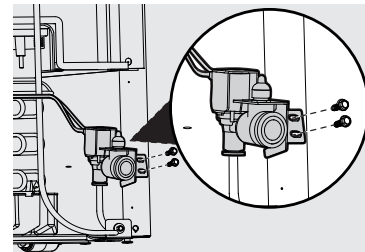

Figure 17
14. The water valve location has pre-made holes on the right rear of the unit. The water line should be oriented downward when the valve is installed. Install the water valve using a $\frac{1}{4}$ " hex head driver, install the 2 hex head screws. Tighten screws until they are snug and then tighten an additional $\frac{1}{4}$ turn. See Figure 17.